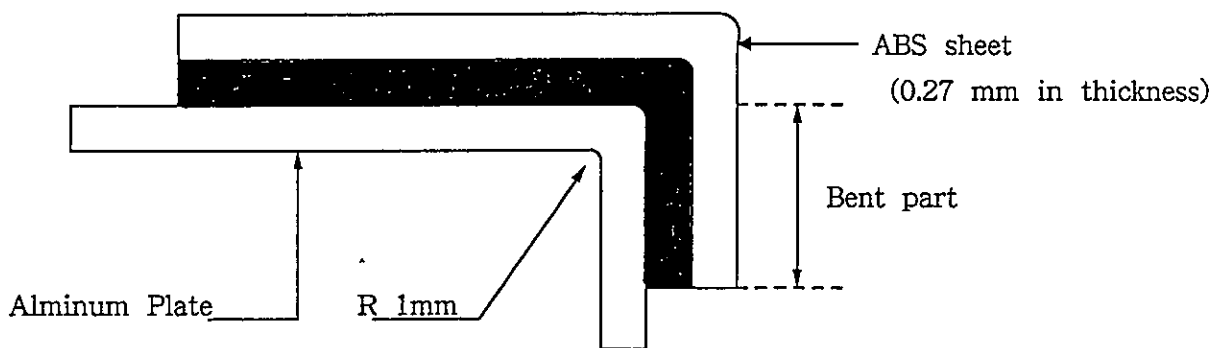

Figure 5 : Method of Testing Repulsion Resistance
- (4) Measuring mehtod : As shown in Figure 5, strips of